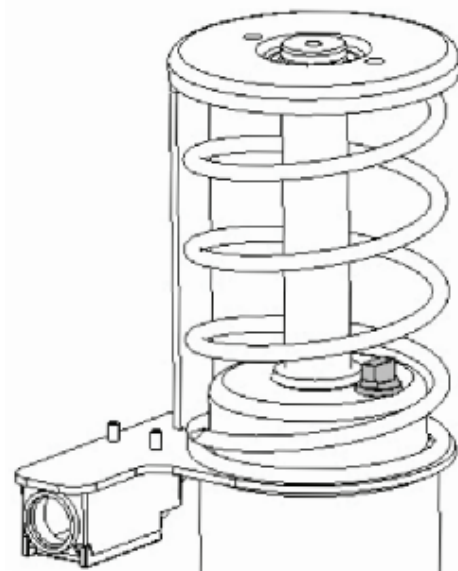

Figure 4
1. Unscrew the dipstick (indicated on figure 4) and remove from the buffer.